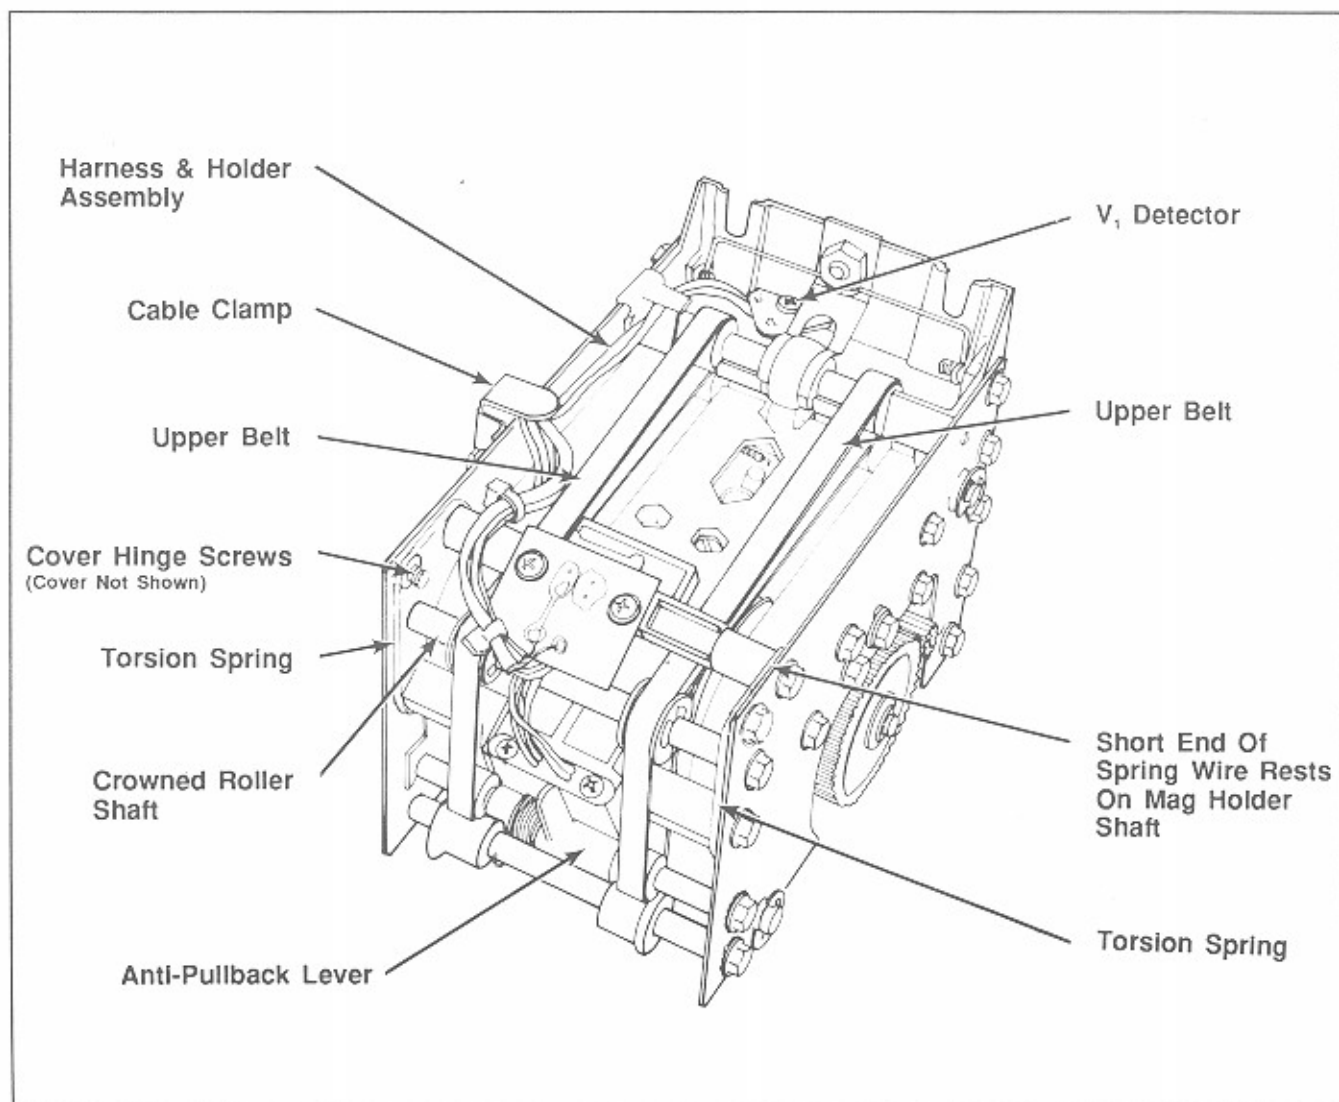
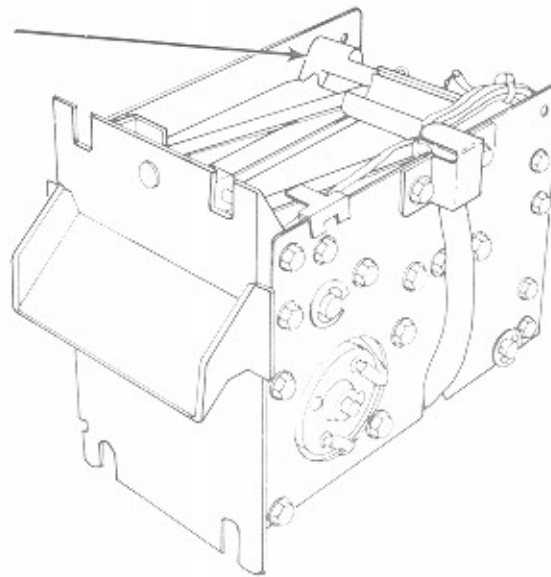

Figure 4-10A. Head And Holder Assembly Removal
Figure 4-10B. Head And Holder Alignment
Refer to *figure 4-10A* during removal and installation of the harness and holder assembly unless you are told to refer to *figure 4-10B*.
1. Slide the new harness and holder assembly under the upper belts and align the assembly with the lower track by placing the "V" on the holder over the "V" on the lower track as shown in *figure 4-10B*.